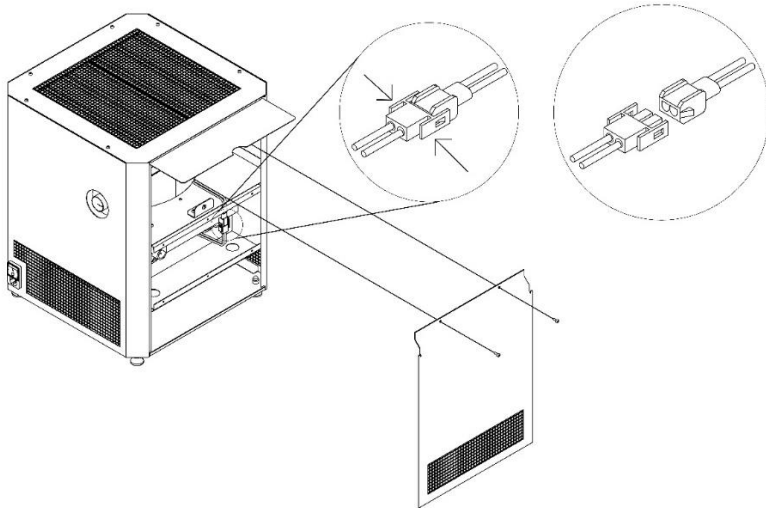

Figure 3
- 2.) Remove access panel by loosening (2) screws with a 2.5 mm Allen wrench. See Figure 3.
- 4.) Disconnect 2 pin MOLEX connector providing power to PCP Panel. See Figure 3.
14.) Reconnect 2 pin MOLEX Connectors providing power to PCP Panel. See Figure 3.
15.) Reattach access panel with (2) screws. Tighten screws with an Allen wrench. See Figure 3.
- 4.) Disconnect 2 pin MOLEX connector providing power to PCP panel. See Figure 3.
13.) Reconnect 2 pin MOLEX connector providing power to PCP panel. See Figure 3.
14.) Reattach access panel with (2) screws. Tighten screws with an Allen wrench. See Figure 3.